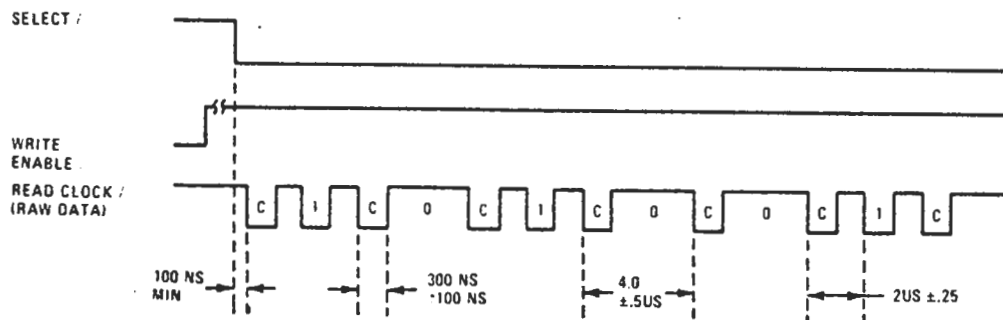

FIGURE 16. RAW DATA TIMING
A feature of the CalComp 140 is its universal read circuits. While the expected recording method is double frequency (FM), a systems designer may bypass the standard one-shot data separator and use the READ CLOCK/ output which would represent unseparated data and clocks to enable the use of another recording method which may be either more efficient or result in a higher throughput (see Figure 16).
For clarity each of the read data outputs is depicted separately along with appropriate timing details (see Figures 16, 17 and 18).